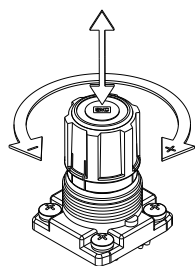

Fig.4 Governor handle
- To increase the set the pressure by unlocking the handle slightly pulling it up, and, rotating it in the (+) direction of the arrow (see Fig.4).
- To decrease the set pressure after the pressure has been set, unlock the handle, and then rotate the handle in the (-) direction of the arrow (see Fig.4). The residual air will be released from the area of the handle, due to the relief construction of the governor.